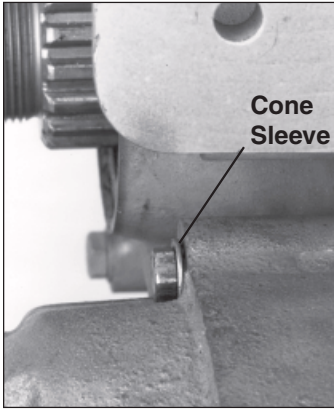

Fig. 13
**Note:** Once the 378431-26 Hex Head Screw is torqued down, the cone sleeve will be exposed. (Fig. 13)